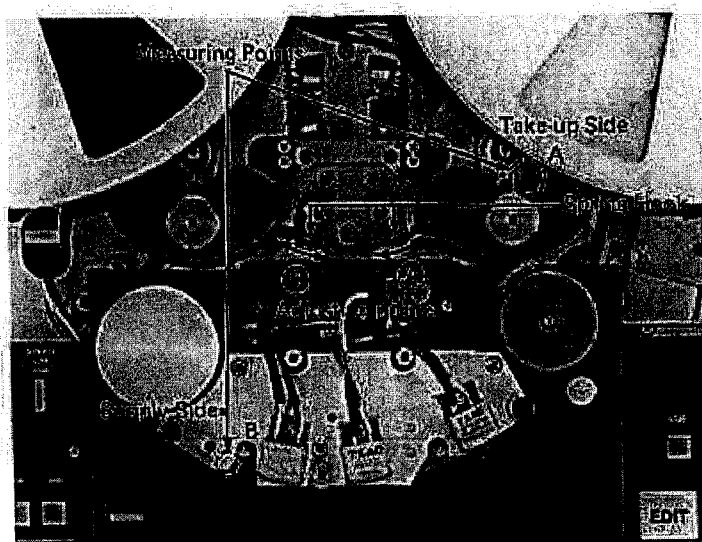

Fig. 9-4-7: Tape Tension Measurement and Adjustment Points
Thread a blank tape onto the deck in the same manner as described in A (2) and set the deck into the edit mode. Measure the tape tension at both the take-up side and supply reel side with a tension analyzer or a tentelometer. The measurement should be made at both the supply side and take-up side at points A and B as shown in Fig. 9-4-7.